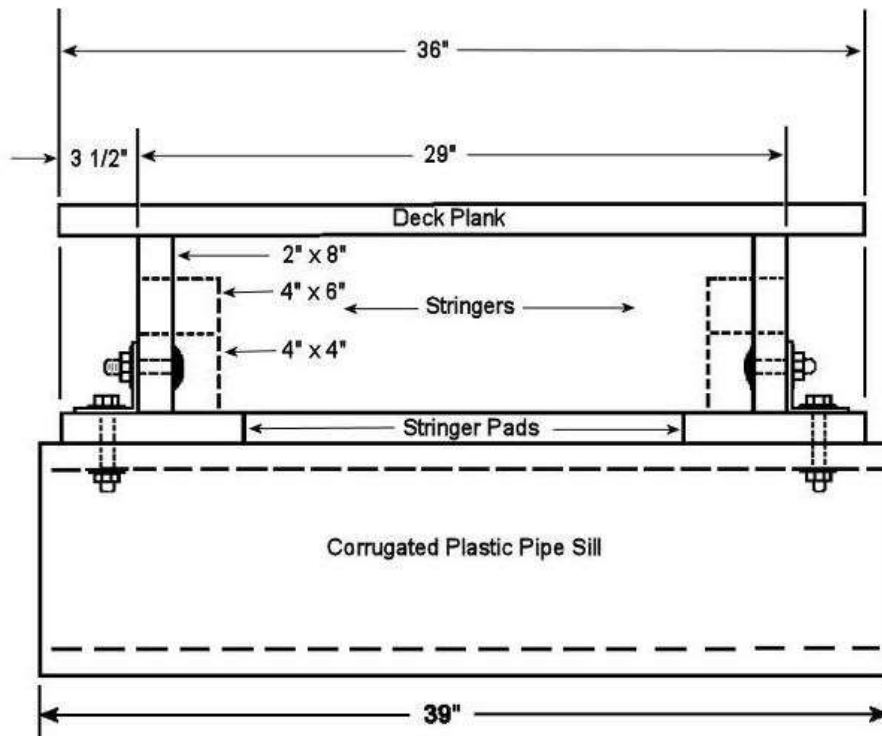

Figure 6 – Corrugated Plastic Pipe Sill Assembly Detail
**Plastic Pipe Sills** – Figure 6 is an assembly drawing showing plastic pipe with an end view of stringer pads, brackets/hardware, stringer options and decking.